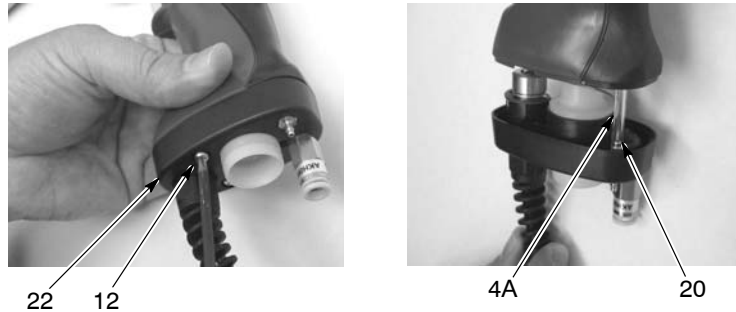

Figure 4 Removing Bulkhead and Body Screw
15. See Figure 4. Remove the two M3 x 20 screws (12) securing the handle base (22) to the handle assembly.
17. Pull the clear 4-mm tubing (4A, part of filter assembly) off the barbed fitting (20).